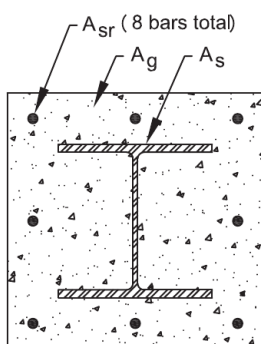

Figure 1
- 2 For the axially loaded encased composite member shown in Figure 1, the area of the steel core, A_{sr} , must comprise at least ____ of the total composite cross section.
- 3 For the axially loaded encased composite members shown in Figure 1, the minimum reinforcement ratio for continuous longitudinal reinforcing, A_{sr}/A_g , must be ____